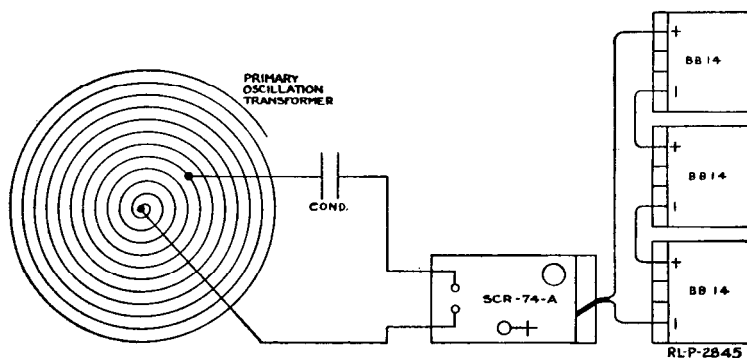

Fig. 34.—Method of connecting inductance and condenser to SCR-74-A transmitter.
2. Make the following connections as shown in Fig. 34.